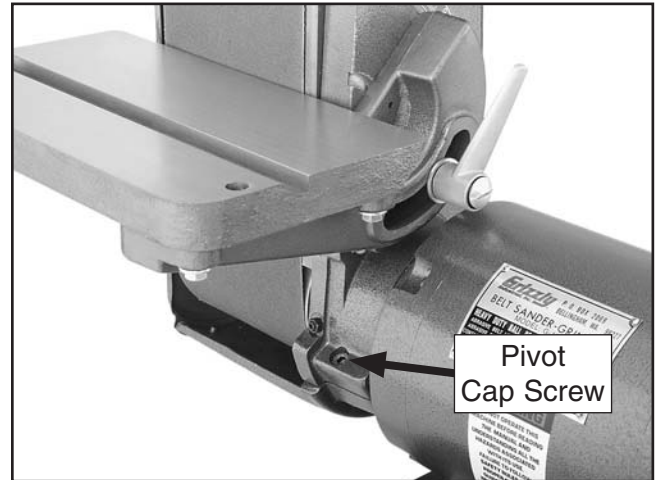

Figure 16. Location of the sanding belt pivot cap screw.
- Loosen the sanding belt pivot cap screw shown in **Figure 16**, rotate the sanding belt assembly to the vertical position, then re-tighten the cap screw to hold it place.